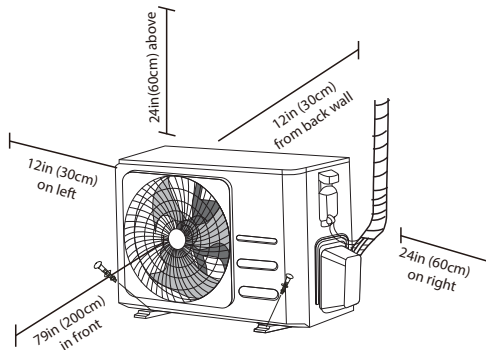

Fig. 9 — Unit Clearances
- Meets all clearance requirements (see Figure 9).